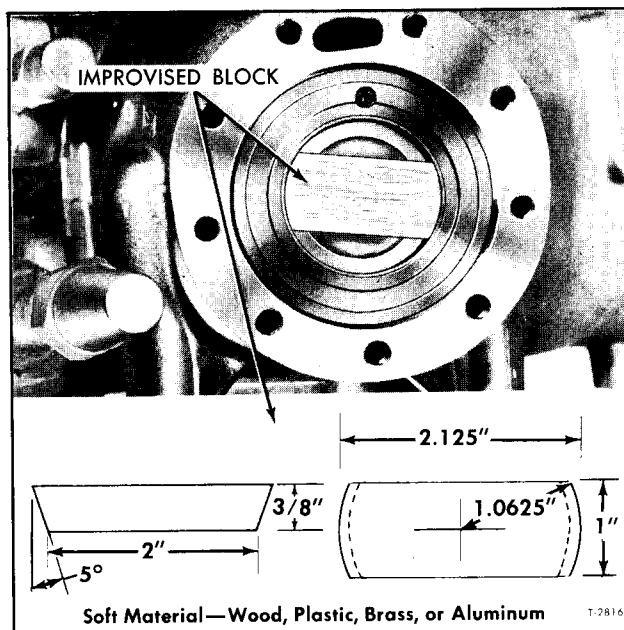

Figure 33—Using Improvised Block to Remove Suction Valve and Liner
1. The suction valve plate (45) is tapered inward at the top. A block of wood, plastic, or soft metal should be improvised to dimensions shown in figure 33 to fit into this taper.
2. Rotate the crankshaft until piston head is down about two inches from top, then place the block into cylinder. Rotate crankshaft to cause piston (38) to press block and cylinder liner (42) from compressor bore (fig. 33).